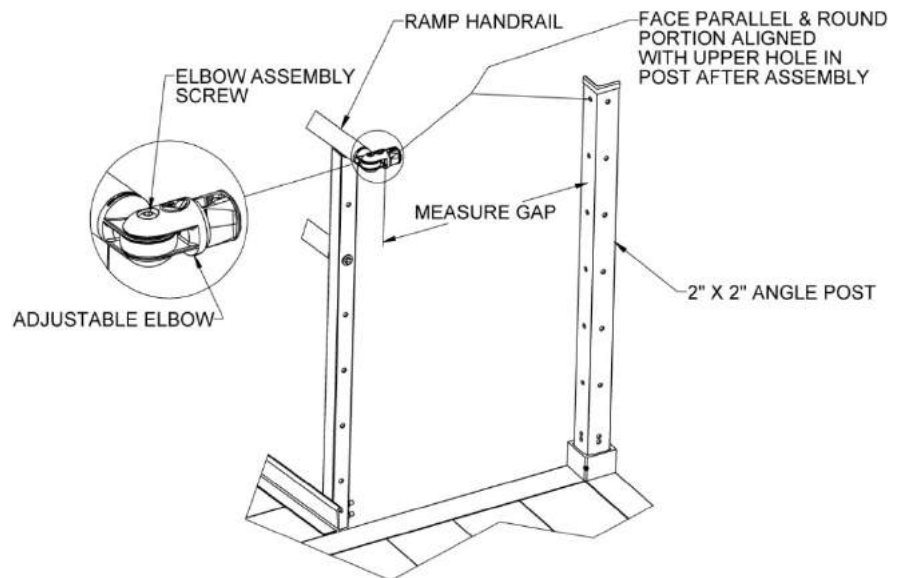

FIG. 5.2
- ✎ This procedure is the same regardless of the style of closure. Insert an adjustable elbow in the ramp handrail. Loosen the elbow assembly screws and position the round portion of the adjustable elbow so it is aligned with the upper hole in the angle post and the face is parallel to the post. Measure the gap between the face and the post (FIG. 5.2).